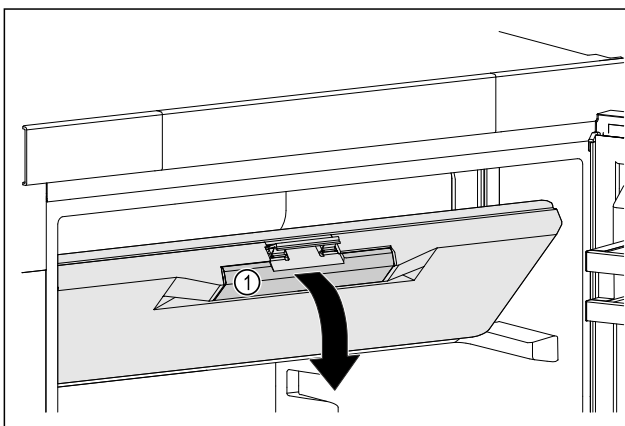

Fig. 51
- Hold the freezer compartment door by the recessed handle Fig. 51 (1).